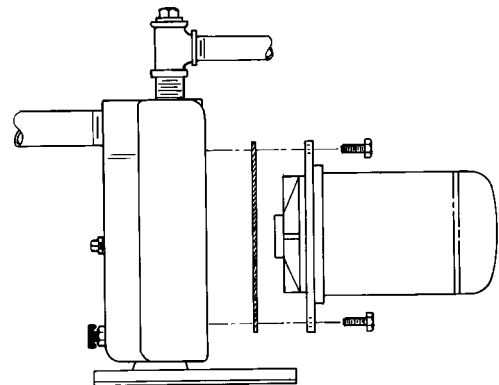

Figure 19 – Slide Motor Back
Pump and piping need not be disconnected to repair or replace motor or seal (see Figure 19). If motor is replaced, replace the shaft seal (Key No. 5, Page 12). Keep one on hand for future use.
2. Remove capscrews holding seal plate to pump body. Motor assembly and seal plate can now be pulled away from pump body (Figure 19). **CAREFULLY** remove gasket.